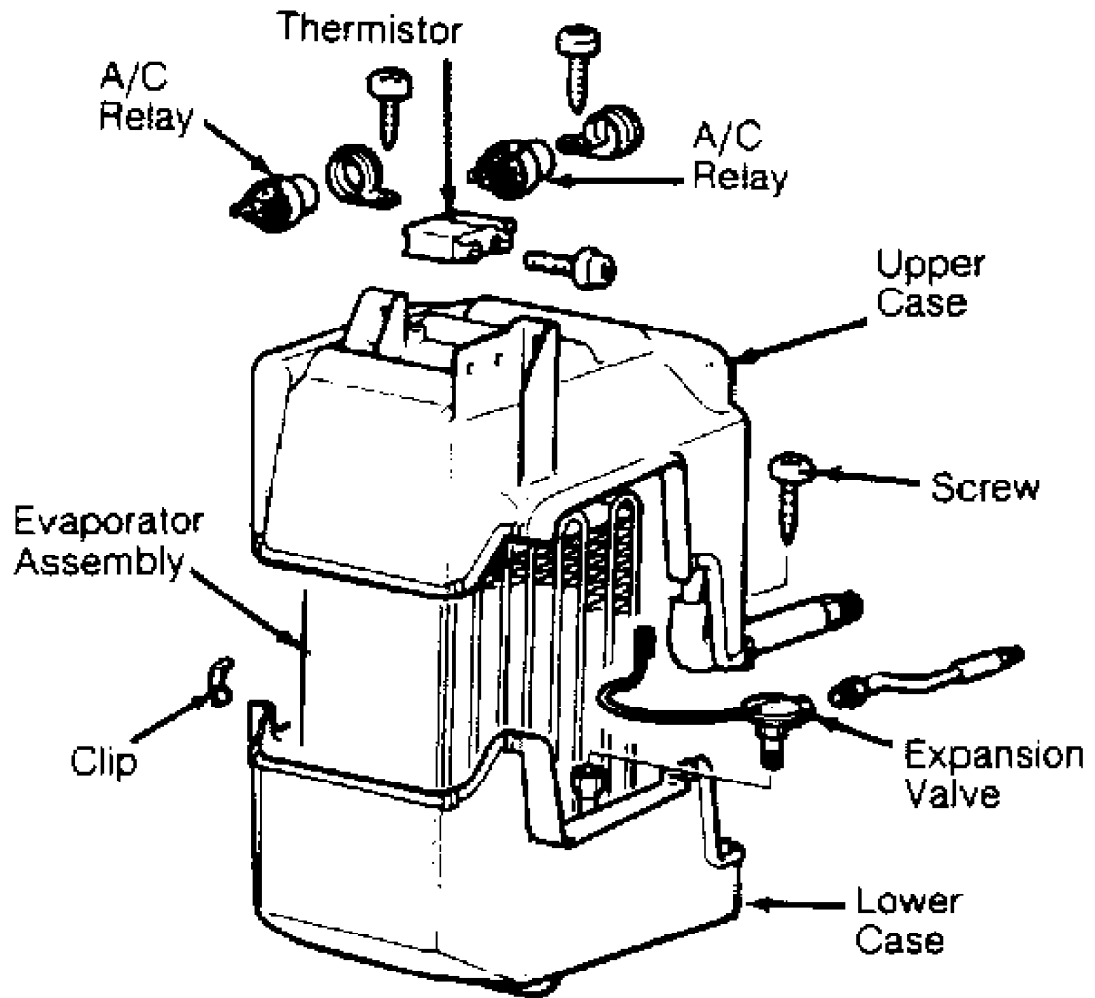

Fig. 12: Exploded View of Front Evaporator (Montero)
2) Disconnect refrigerant lines at firewall side of engine compartment. Remove evaporator top attaching bolts in passenger compartment. Remove evaporator assembly. See Fig. 12 or 13. To install, reverse removal procedure.